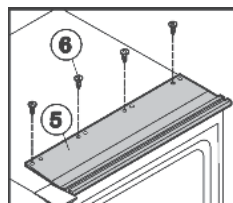

Fig. 29
► Screw on the upper installation contour Fig. 29 (5) by means of four screws Fig. 29 (6) inserted through the pre-cut holes in the profile and appliance.